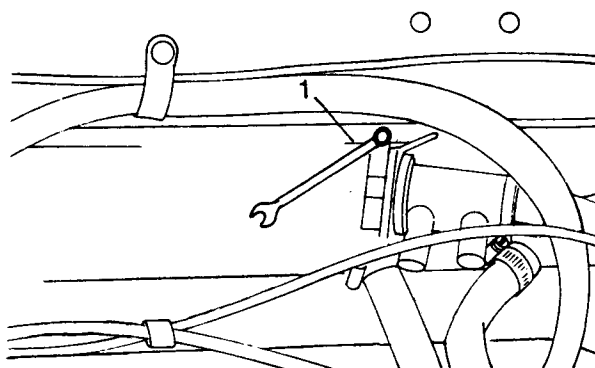

Fig B4.4
- (12) Refer to Fig B4.4. Disconnect the control cable (1) at the heater water valve.